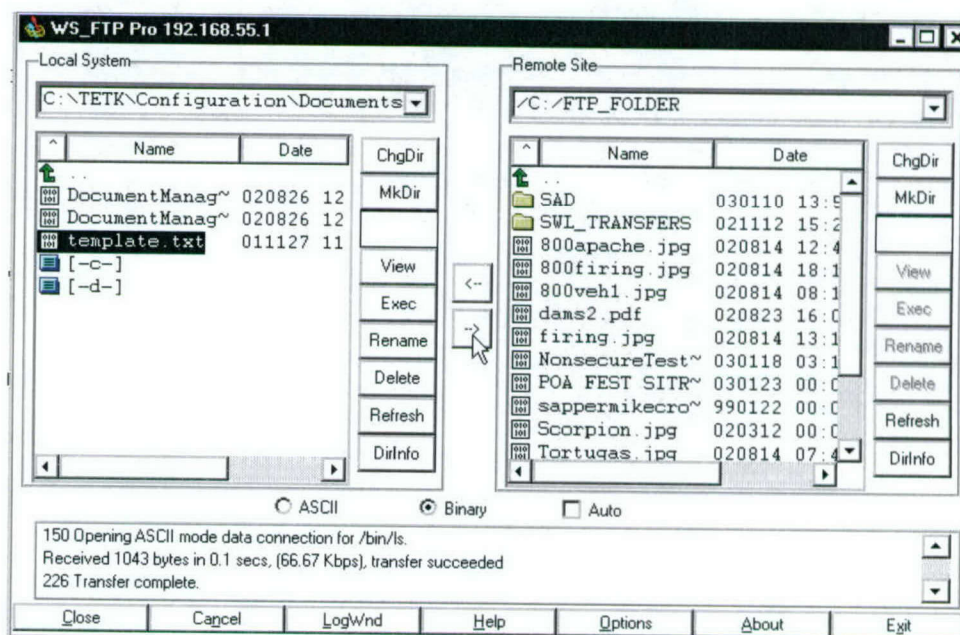

Figure 43. WS_FTP Window for moving files
- i. A WS_FTP window will appear, showing a folder and its contents for your PC (Local System) and for the TEOC TCE-F (Remote Site) (Figure 43). Freely change folders as desired, and move files between the two machines by highlighting the file(s) of choice and using arrow buttons in the center of the screen to define the “direction” of the transfer and to initiate the transfer.